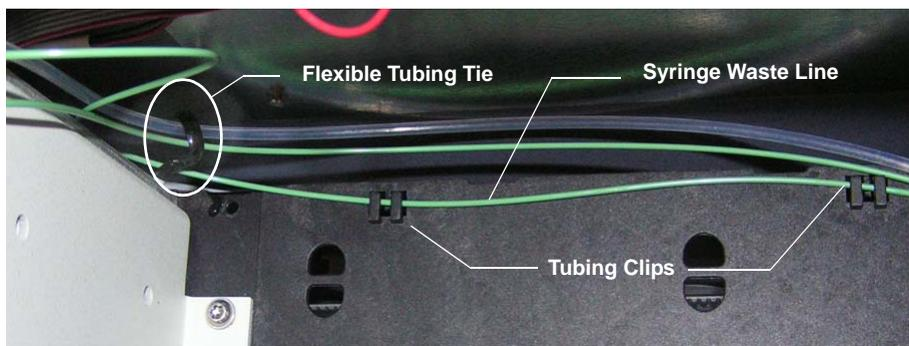

Figure 5-29. Flexible Tubing Tie and Tubing Clips in Upper-Left Corner Inside the Dionex AS-AP
3. Remove the syringe valve waste line from the flexible tubing tie in the upper-left corner inside the autosampler (see Figure 5-29). To open the tie, pull down on the end of the tie. Lift the tubing out of the two clips on the back wall of the autosampler